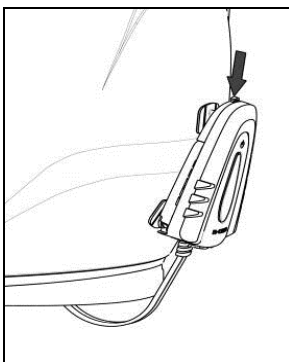

Fig. 19
- Close the safety block by pressing it downward, as shown in Fig. 19;